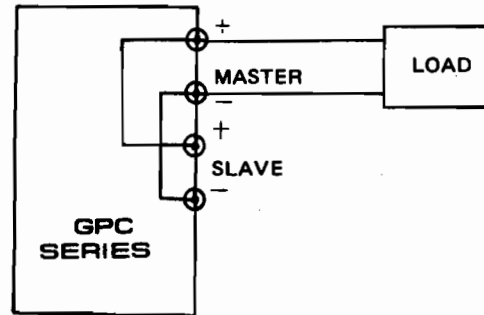

Fig. 5-5. Parallel Tracking Operation
- The configuration as shown in Fig. 5-5.